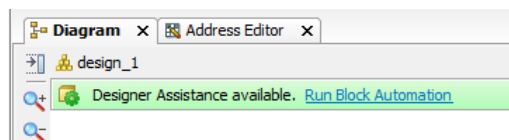

Figure 11: Run Block Automation
- Click Run Automation, displayed in Figure 11.